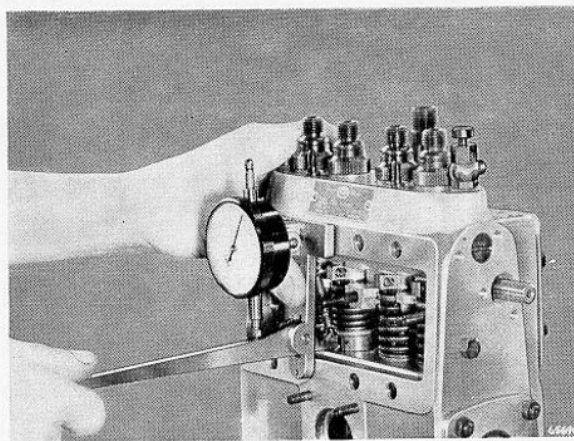

FIG. 15. CHECKING HEAD CLEARANCE USING GAUGE 7144/166—TYPICAL ILLUSTRATION
3. Using C.A.V. gauge 7144/166 check the plunger head clearance of No. 1 element and if necessary adjust this by varying the thickness of the shims (Fig. 15).